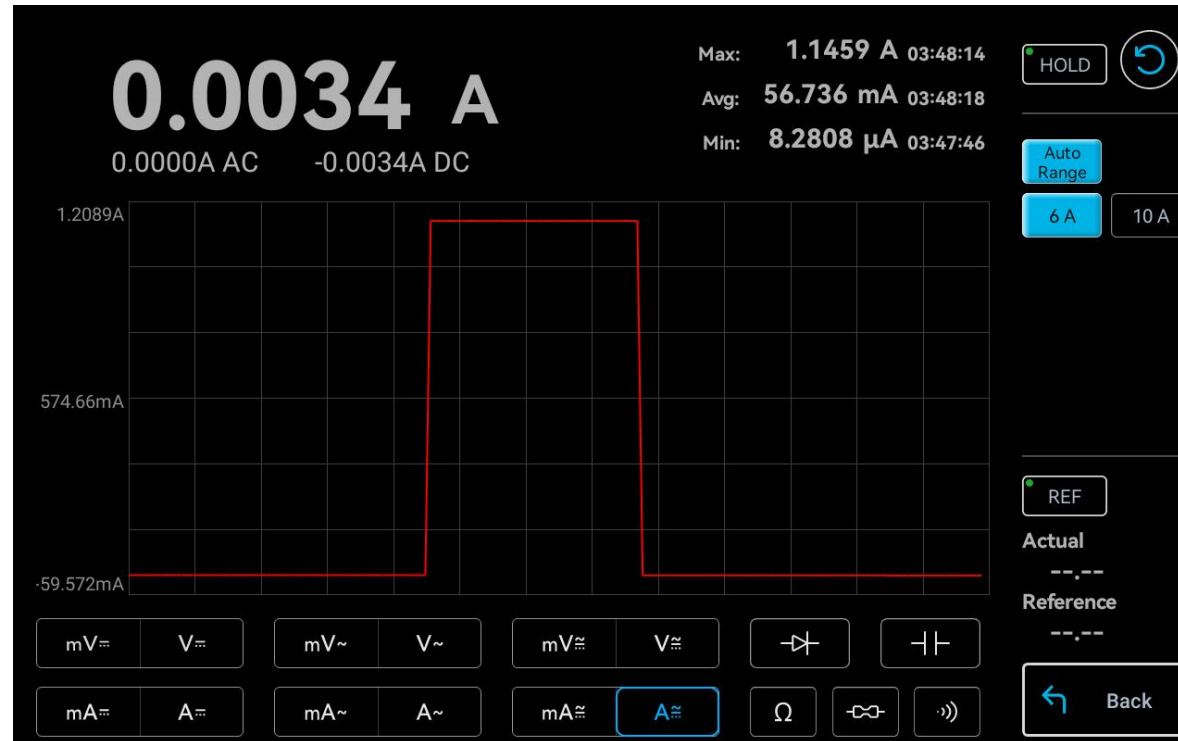

Figure 8-11 AC+DC Current Measurement (A)
Test Steps: Select and enable the AC+DC current measurement (A) in the measurement item selection area , as shown in Figure 8-11.